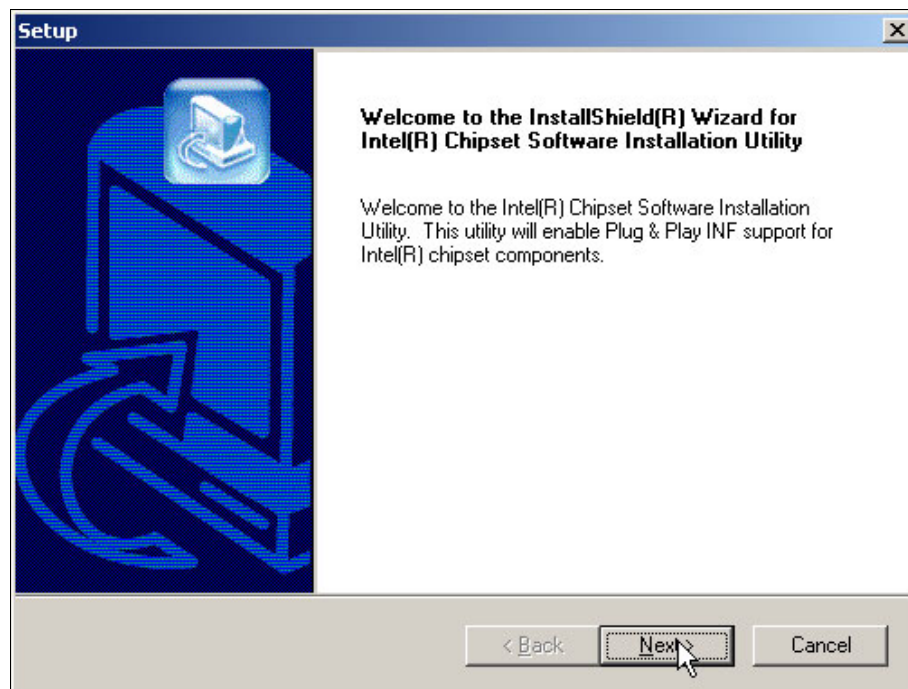

Figure 2-22 Driver setup wizard is launched
5. The setup utility is launched as shown in Figure 2-22 on page 33.